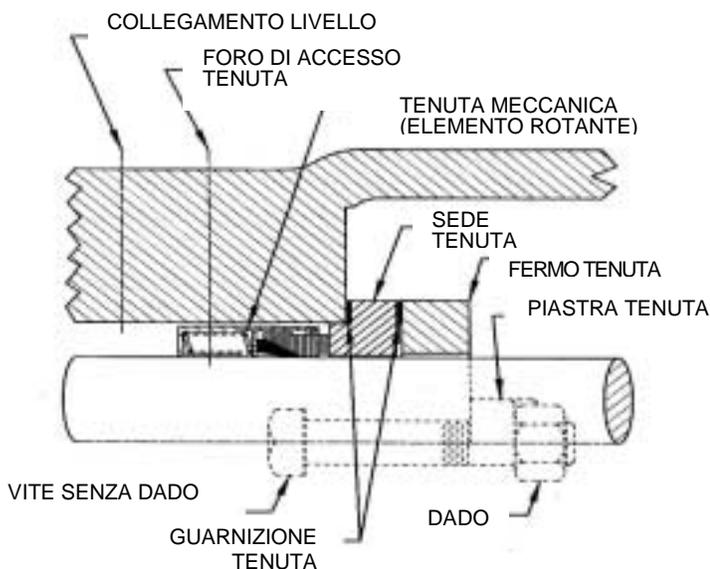

FIGURA 10
3. Cuneo in Teflon® (Figura 10)